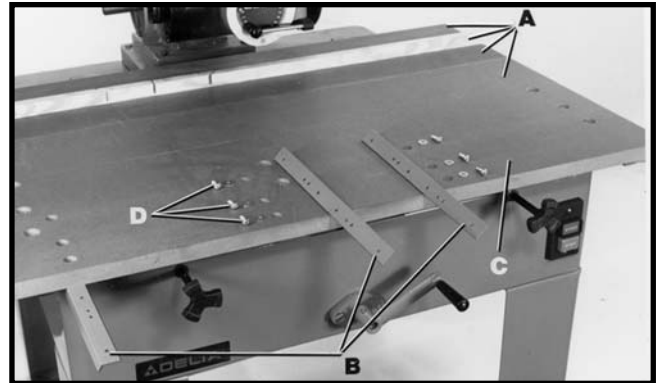

Fig. 15
1. Assemble loose table boards and fence (A) Fig. 15, on the table brackets.
2. Assemble three angle supports (B) Fig. 15, to the fixed front table board (C) using nine 1/4-20x7/8" round head screws and 9/32" flat washers.